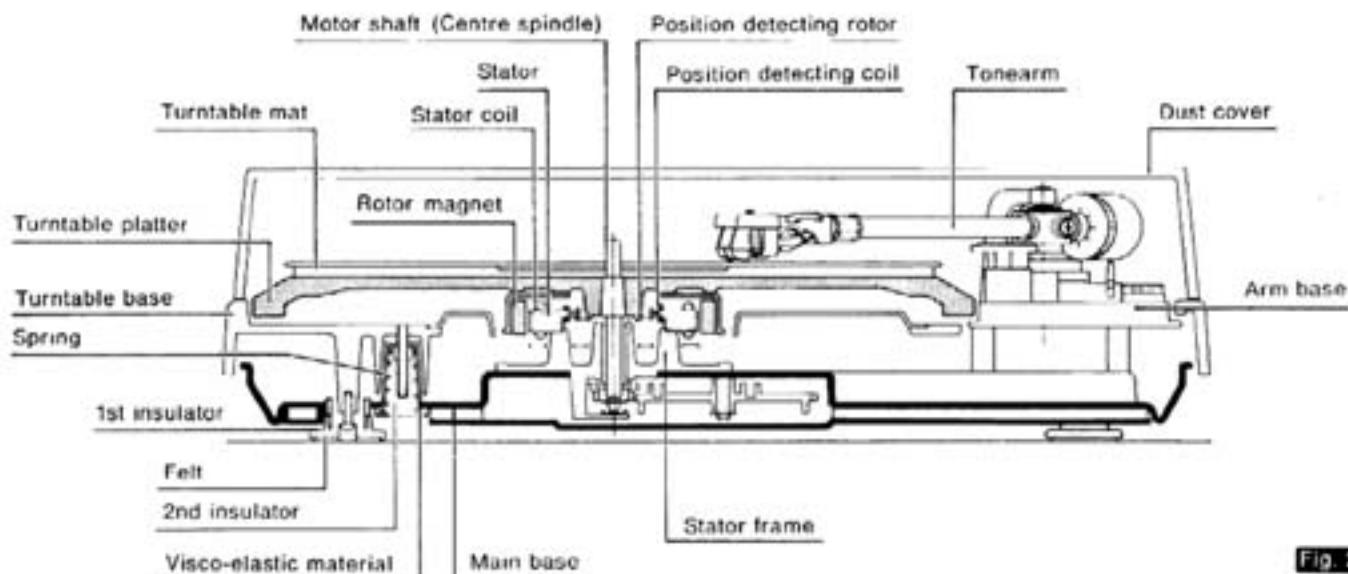

Fig. 29
■ The newly developed double-insulate vibration-damping unit, unique in Technics, was developed through high mass design placing particular emphasis on acoustic quality. (See Fig. 29). The turntable platter and the tonearm are installed on the base and solidly girded through the integral construction of the main base and the bottom of the case, while the entire base is floating in stable equilibrium with respect to the main turntable base through insulators, composed of metallic springs and a viscoelastic material.
■ Motor construction peculiar to Technics in which the rotor of the motor is integrally connected to the turntable platter. (See Fig. 29).